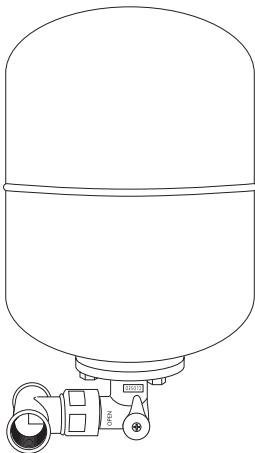

Fig. 4
4. Mount the vessel vertically with the connections at the bottom using suitable fixings and a strap type bracket (Fig. 4).